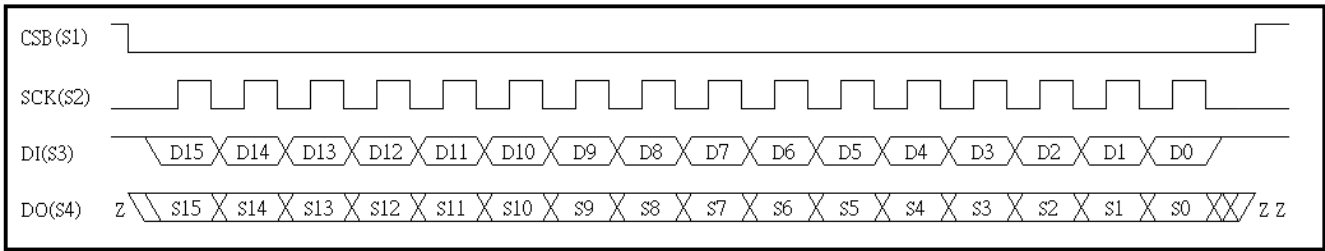

Fig. 19 SPI Data Output Command timing
- a. Command timing reference Fig. 19 SPI Data Output Command timing.